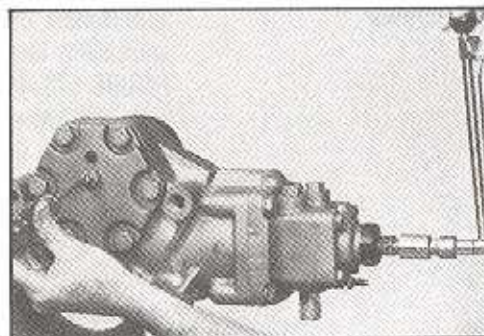

Figure 178
2. Tighten sector shaft adjusting screw (45) to provide 15-20 inch lbs. (1.7-2.3 N m) of torque required to rotate the worm shaft (25B) through 90° each side of center. SEE FIGURE 178.